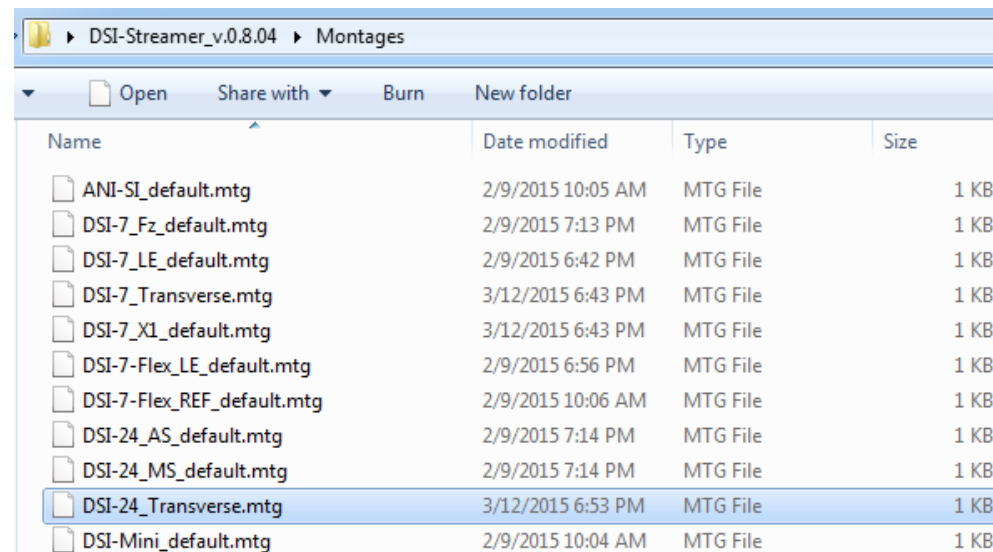

Figure 35 – Montages Folder
- Press the “Load” button, and go to the “DSI-Streamer_v.x.x.x/Montages” folder, as seen in Figure 35.